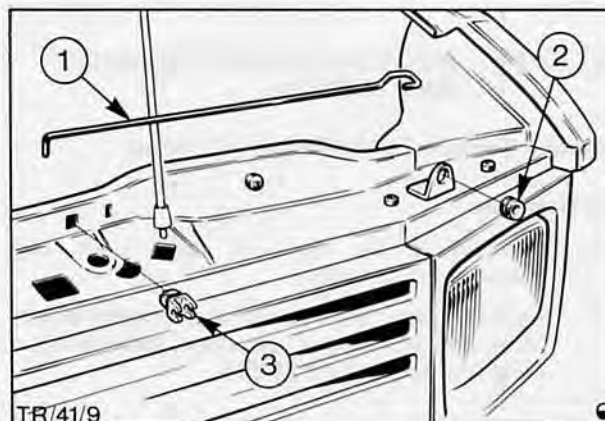

Fig. 12. Hood stay assembly
1. Open and securely prop hood, fit fender covers. Lift free end of hood stay from its retaining clip and manoeuvre fixed end from grommet on crossmember, Fig. 12.